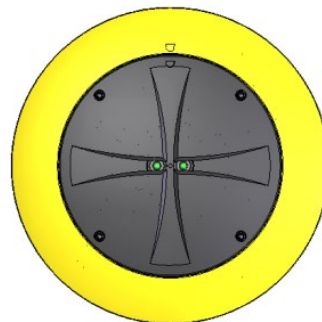

Figure 9: Align markers indicated on the sensor and mounting ring
STEP 2: Place a new core into the mounting ring by aligning the marks on the core part with the marks on mounting ring as indicated in figure 9. Push down the core and secure with 4 screws.